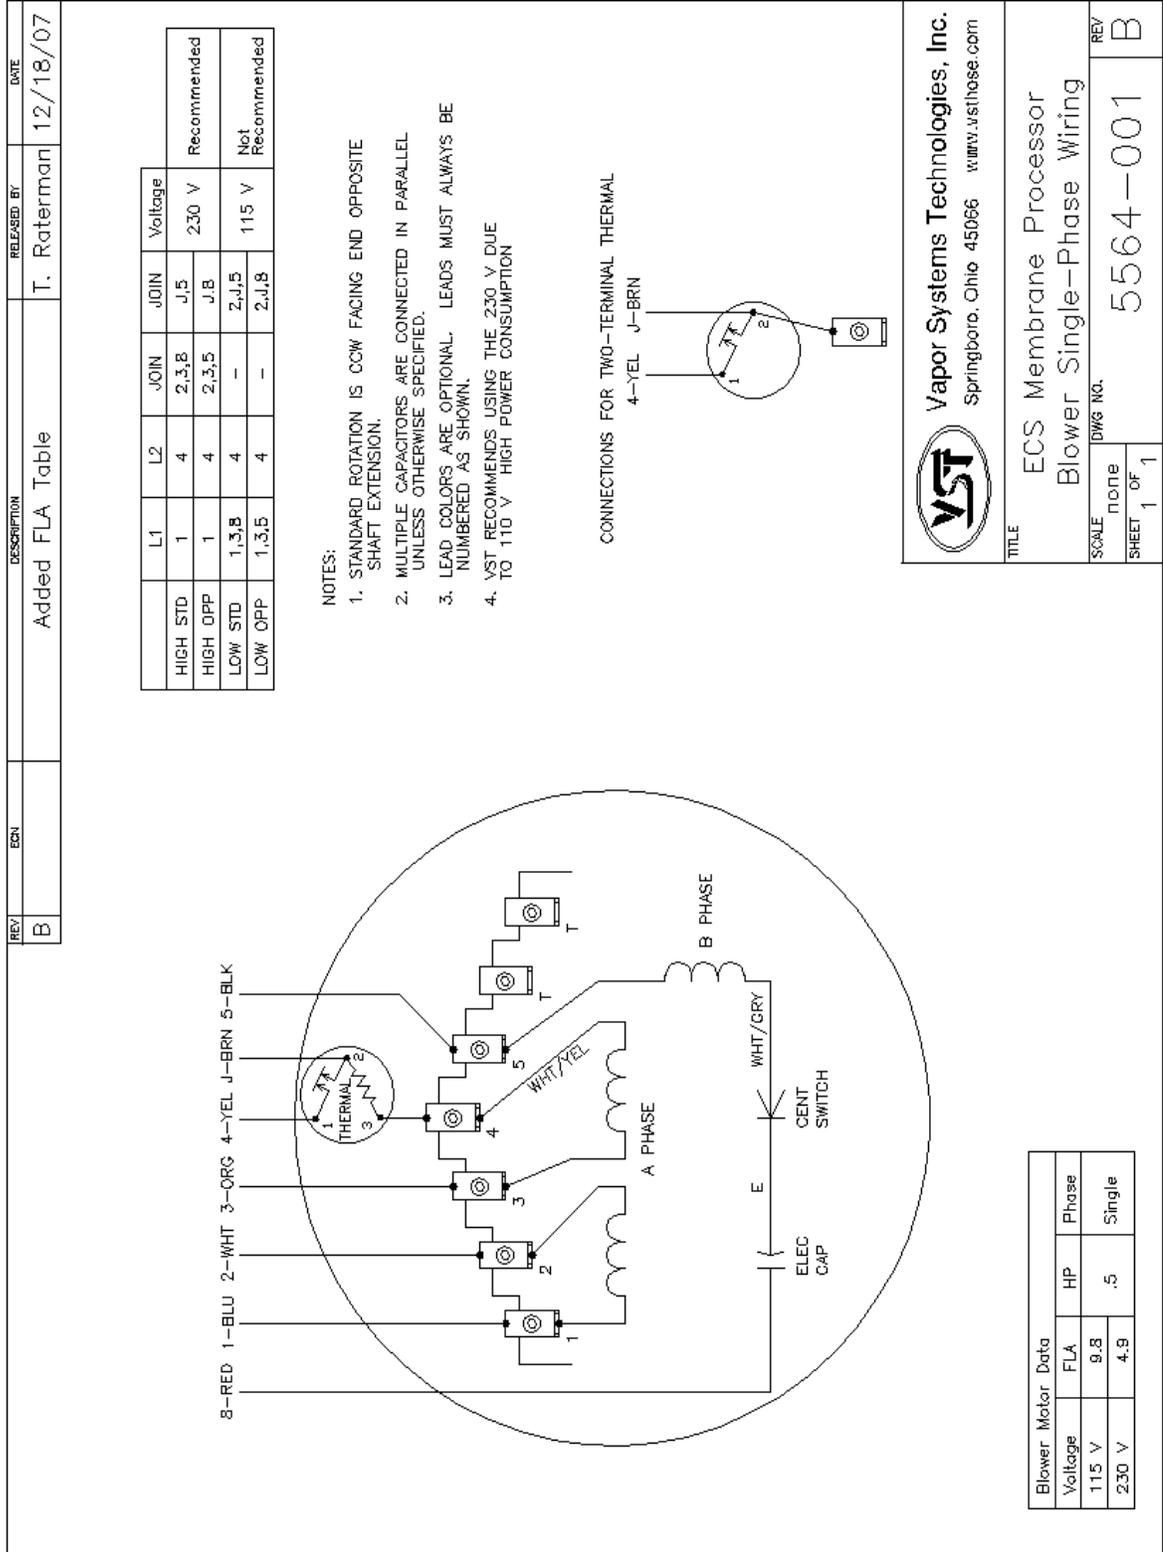

Figure 21: Blower: Single-Phase Motor Wiring Diagram
- ▶ **See Figure 21: Section 14 / Page 63 for the blower single-phase motor wiring diagram**